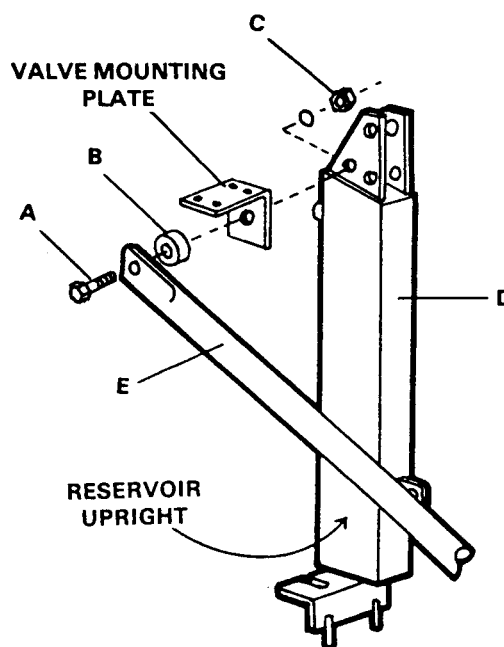

FIG. 11
11. Refer to Fig. 11.
Hoist pre-assembled Main Frame into position and connect points (A), (B), and (C) to Upright (D). Points (B) and (C) both use (1) $\frac{3}{4}$ x $2\frac{1}{2}$ " Hitch Pin (E) and #11 Clip Pin (F). Point (A) is connected with (1) $\frac{5}{8}$ x $2\frac{1}{2}$ " Hitch Pin (G) and #3 Clip Pin (H). Now connect the Valve Mounting Plate (I), with valve attached, to the Upright Reservoir. Refer back to FIG. 11.